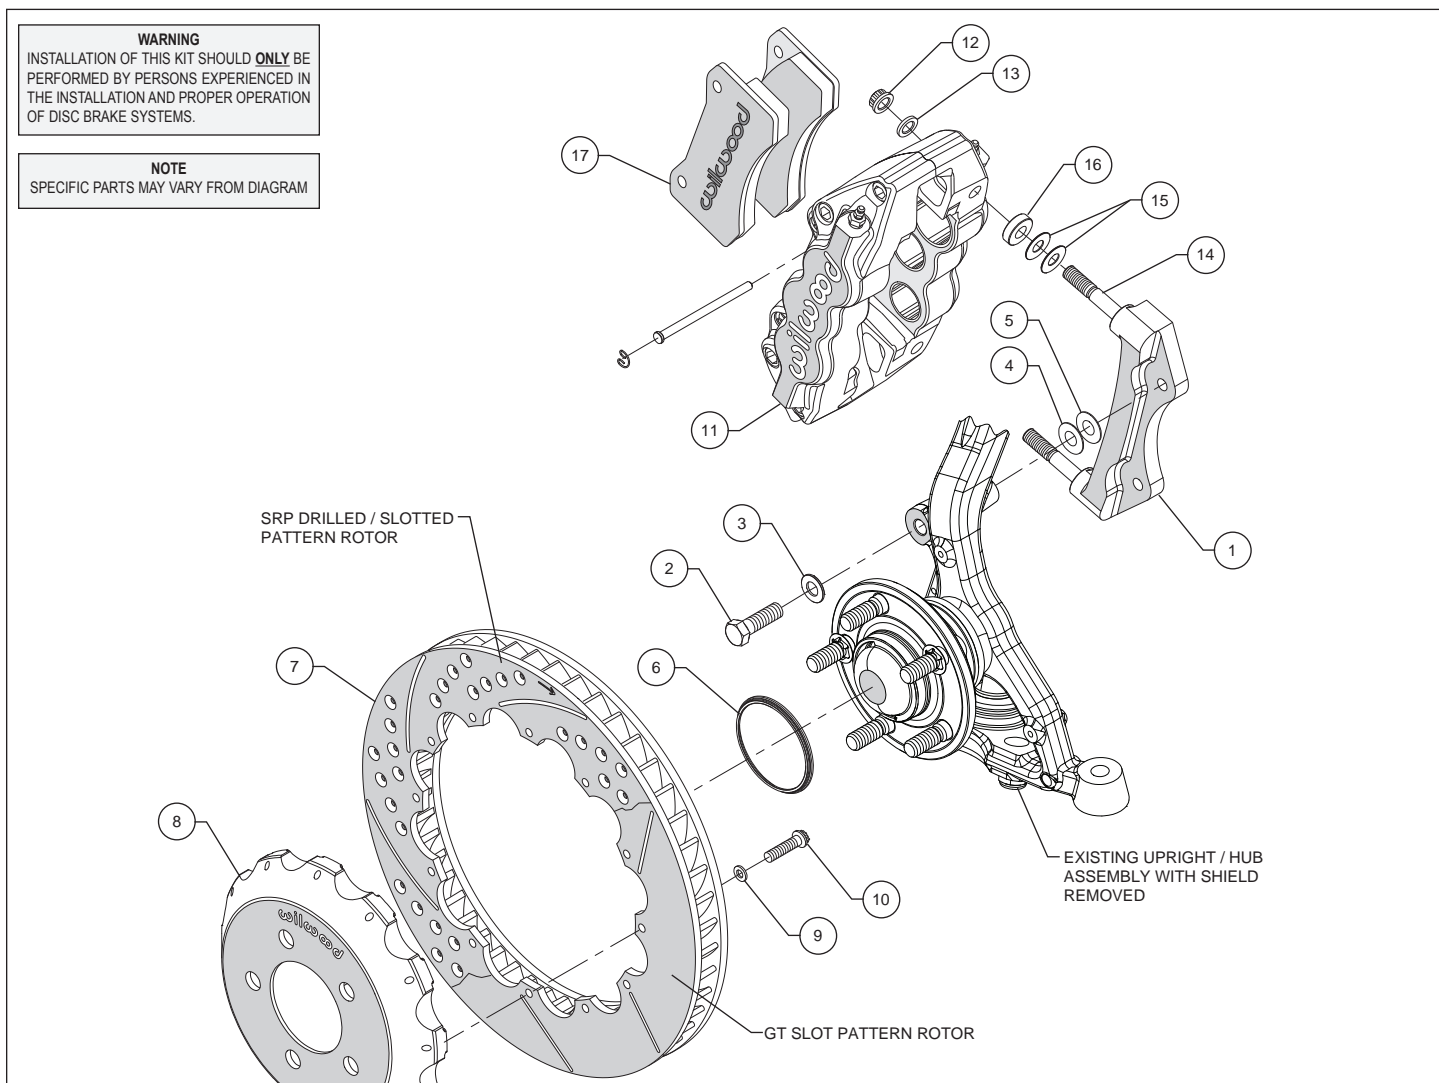

Figure 1. Typical Installation Configuration
**Assembly Instructions** (numbers in parenthesis refer to the parts list and Figure 1 on the preceding pages):
- The caliper mount bracket (1) should initially be installed with clean, dry threads on the mounting bolts. Orient the bracket as shown in Figure 1 and Photo 1 and install using mount bolts (2) and washers (3). Initially place one each .033" thick shim (4), and .015" thick shim (5) on each bolt between the bracket and upright, Figure 1. Temporarily tighten the mounting bolts. **NOTE: The bracket must fit squarely against the mount bosses on the upright.** Inspect for interference from casting irregularities, machining ridges, burrs, etc. Later, after the caliper alignment has been checked, the mount bolts will be secured using red *Loctite*® 271.
- **NOTE: This kit contains distinct right and left hand calipers that must be mounted in a specific direction, as described below.** Lubricate the caliper mounting studs (14) with lightweight oil. Initially place two .030" thick shims (15) and spacer (16) on each stud between the caliper and the bracket, as shown in Figure 1 and Photo 4. With the bleed screws pointing up, mount the caliper (11) onto the bracket (1) using lock nuts (12) and washers (13), Figure 1 and Photo 5. Temporarily tighten the lock nuts. Ensure that the caliper is mounted so the largest pistons are at the rotor exit end of the caliper, in relation to the direction of the rotor. View the rotor (7) through the top opening of the caliper. The rotor should be centered in the caliper, Photo 6. If not, adjust by adding or subtracting shims (4 and/or 5) between the bracket and the upright. Always use the same amount of shims on each of the two mounting bolts. Once the caliper alignment is correct, remove the bracket mounting bolts one at a time, apply red *Loctite*® 271 to the threads, and torque to 65 ft-lb.